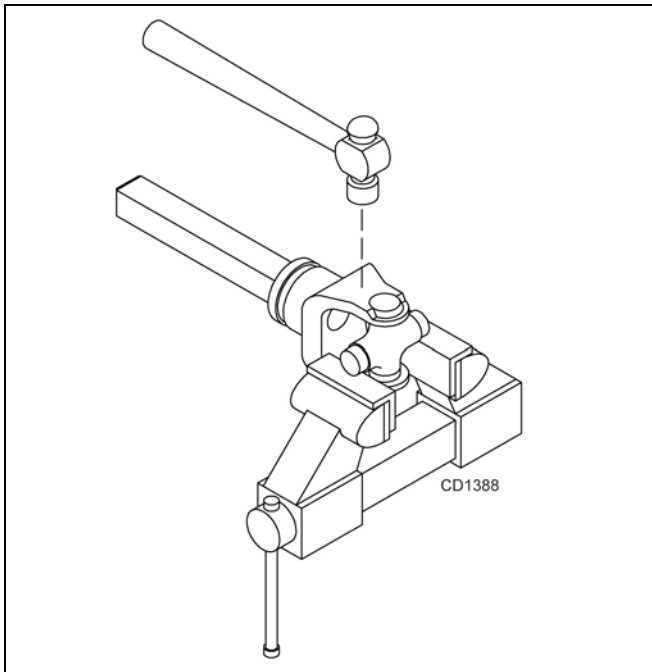

Figure 19
4. Place universal cross in vise as shown in Figure 19 and tap on yoke to remove cup. Repeat Step 3 for final removal. Drive remaining cup out with a drift and hammer.